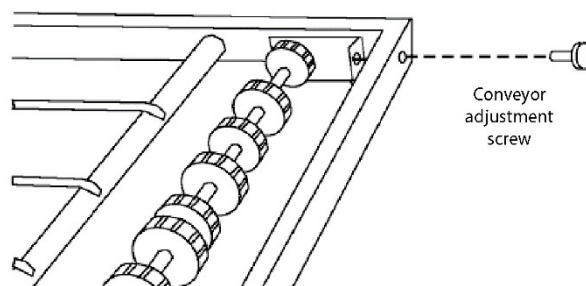

Figure 31. Disassembling the Idler Shaft
- c. Remove the two conveyor adjustment screws from the idler end of the conveyor frame, as shown in Figure 31.
- g. Reassemble the idler shaft into the conveyor. Make sure that the bronze bushing is in proper position. See Figure 31.
- h. Replace the conveyor adjustment screws as shown in Figure 31. To allow the conveyor belt to be reinstalled later, do not tighten the screws at this time.
- m. Reassemble the drive shaft into the conveyor. See Figure 31.